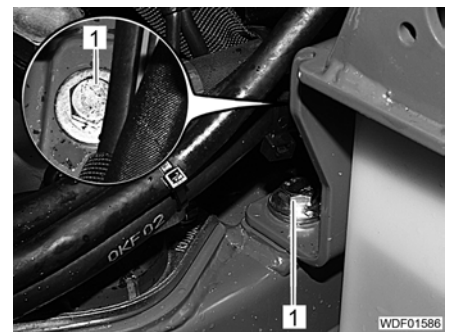

Fig. 180 Fastening mounting (rear)
- Unscrew 2 bolts (Fig. 180,1).